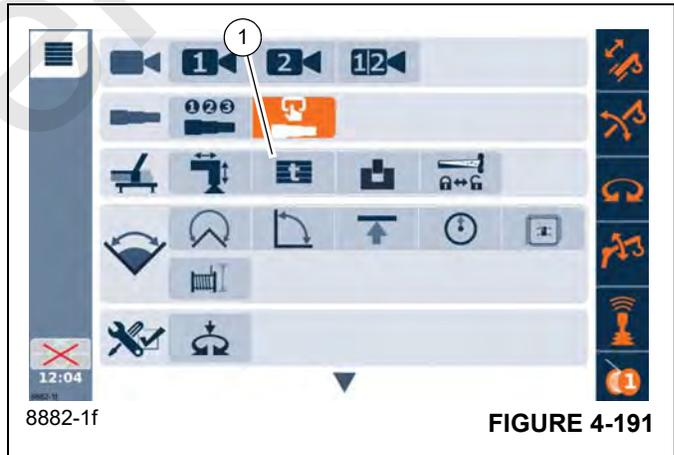

FIGURE 4-191
Select the Counterweight Removal/Installation Icon (1), (Figure 4-191) under the Crane Function Group to show the Counterweight Removal/Installation function screen.